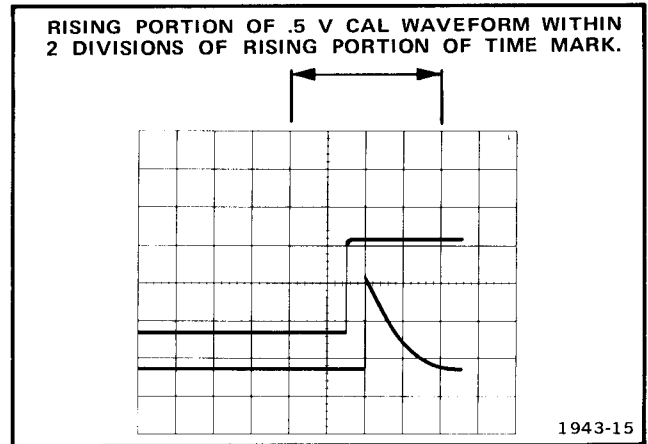

Fig. 5-14. Calibrator frequency check (B sweep display).
d. Adjust DTP dial so 6th time-mark is intensified (see Fig. 5-14).
f. Adjust DTP dial so time-marker and Calibrator waveforms are visible (see Fig. 5-14).
g. CHECK—Horizontal difference between rising portion of time-mark and rising portion of Calibrator waveform is 2 divisions or less (see Fig. 5-14).